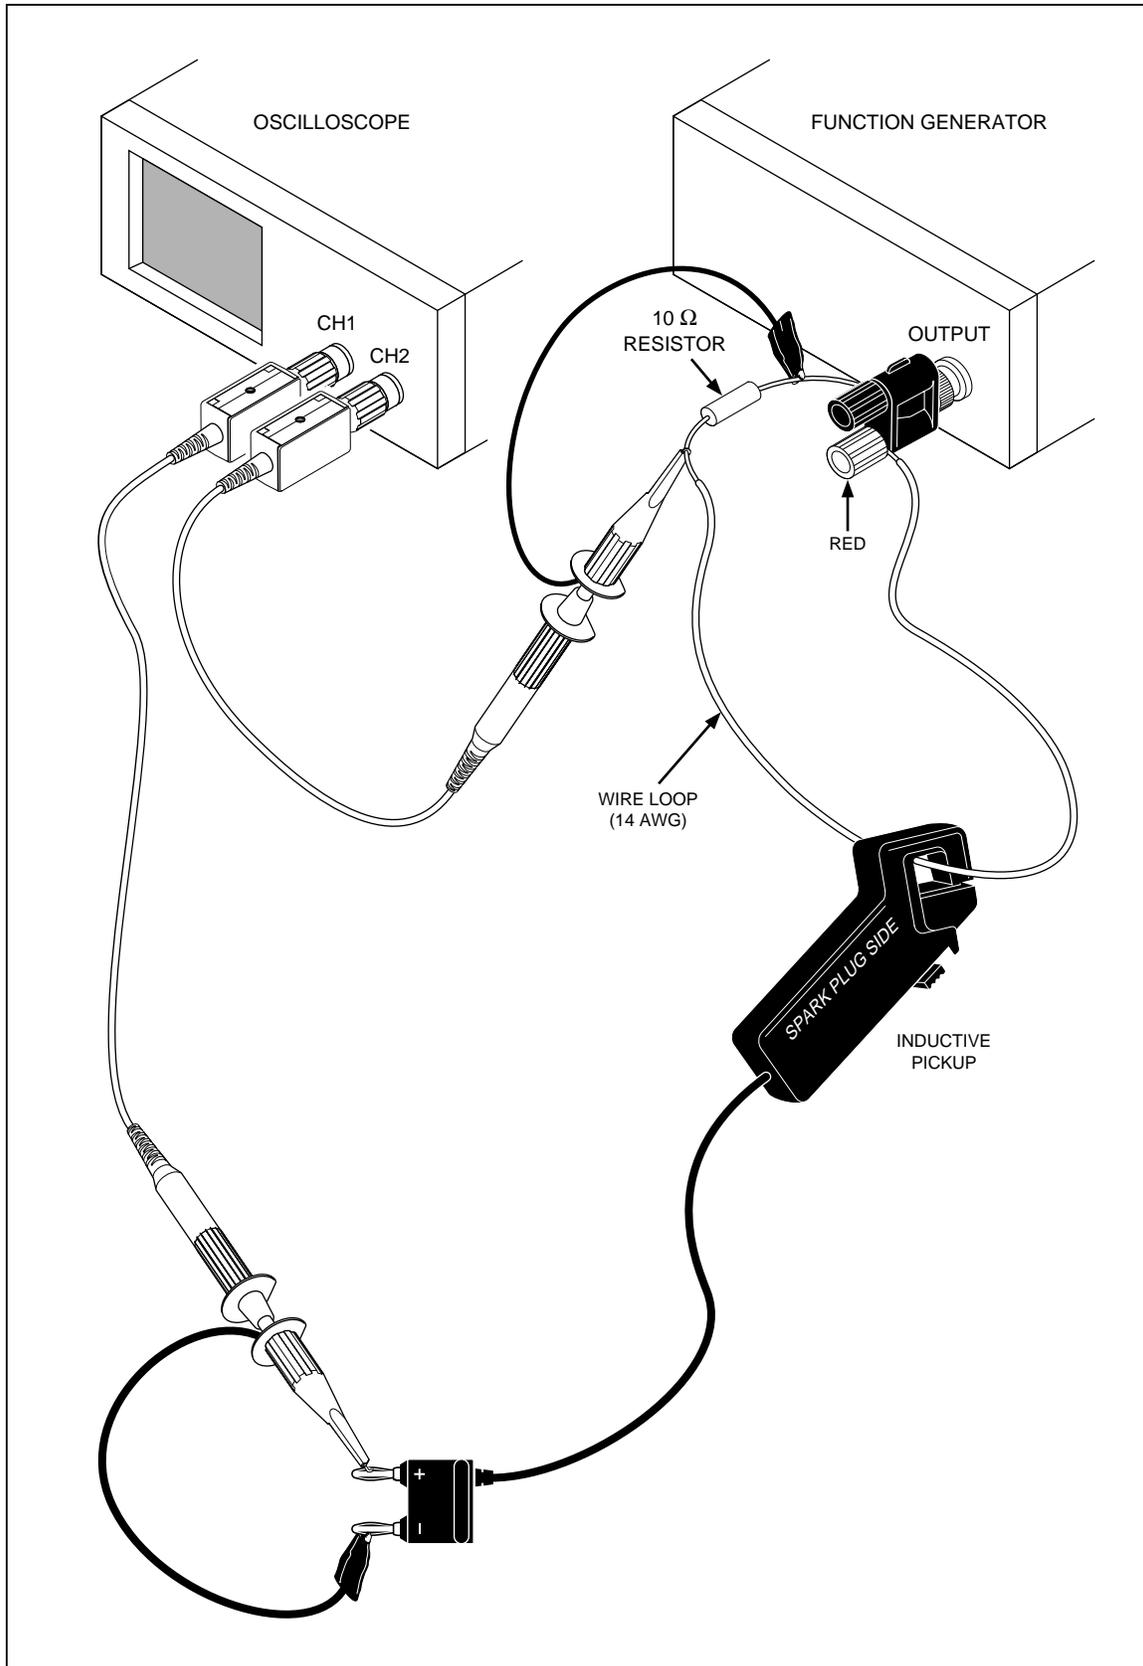

Figure 3-4. Setup for RPM80 Inductive Pickup Test
To test the RPM80 Inductive Pickup, proceed as follows, referring to Figures 3-4 and 3-5 as necessary:
2. Connect the other end of the resistor to the LOW and the wire to the HIGH of the binding-post-to-BNC adapter. Connect the adapter to the output of the Function Generator. See Figure 3-4.
4. Clamp the inductive pickup to the wire loop as shown in Figure 3-4. Make sure that the jaws of the inductive pickup are closed completely, and that the side of the pickup which says "SPARK PLUG" points toward the HIGH output of the Function Generator.